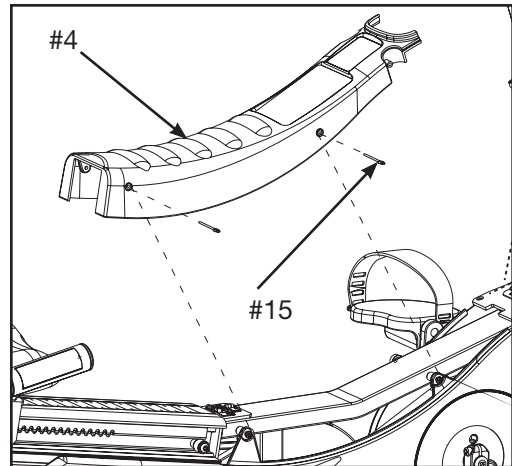

Figure 3
- A. Remove the four long screws securing the top cap in place. Remove top cover. See Figure 3.
- A. Locate and place top cap on the top of the unit as shown in Figure 3.